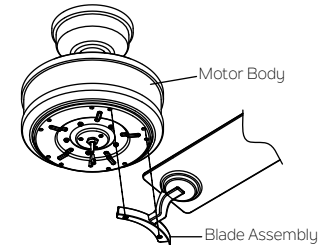

Fig. 18
**Step 2.** Fasten blade assembly to the holes located on the bottom of the flywheel. Tighten the two "pre- installed" motor screws in the blade arm. Repeat steps for the remaining blades assemblies.(Fig. 18)